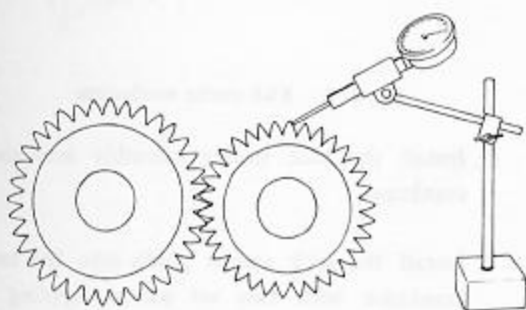

Fig. 5-4 Measuring gear backlash
1. Check for any defect or abnormal wear on gear flanks. Wear of a gear can be obtained by measuring the backlash using a small dial gauge as in Fig. 5-4. First lock the driven gear, then measure play in the direction of the rotation by a dial gauge. If this play exceeds the below specified values, replace the gear.